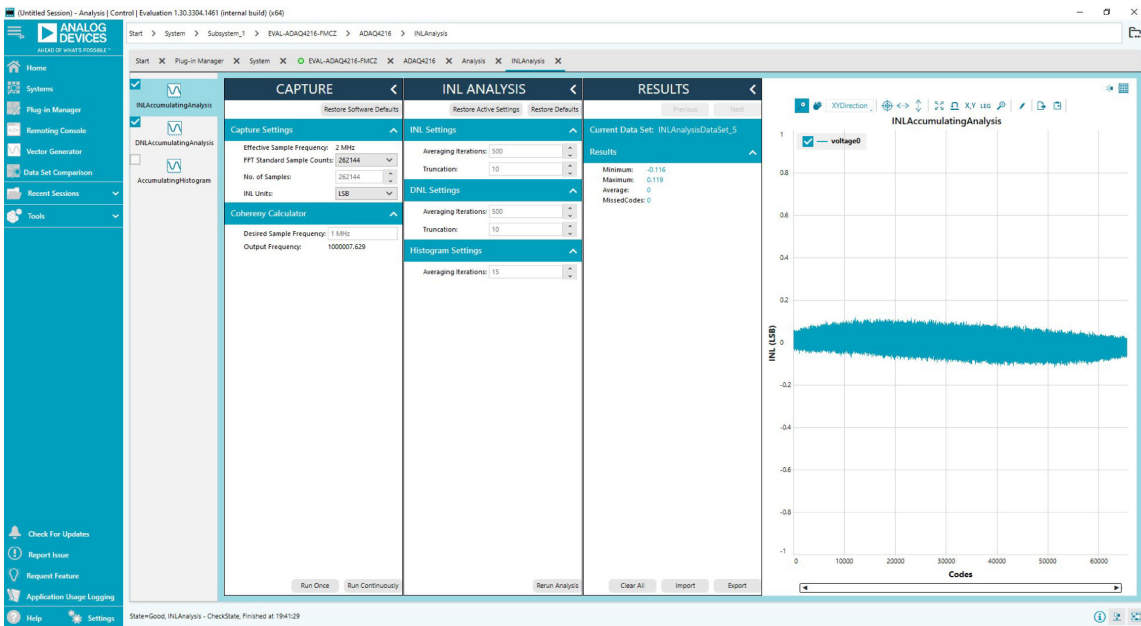
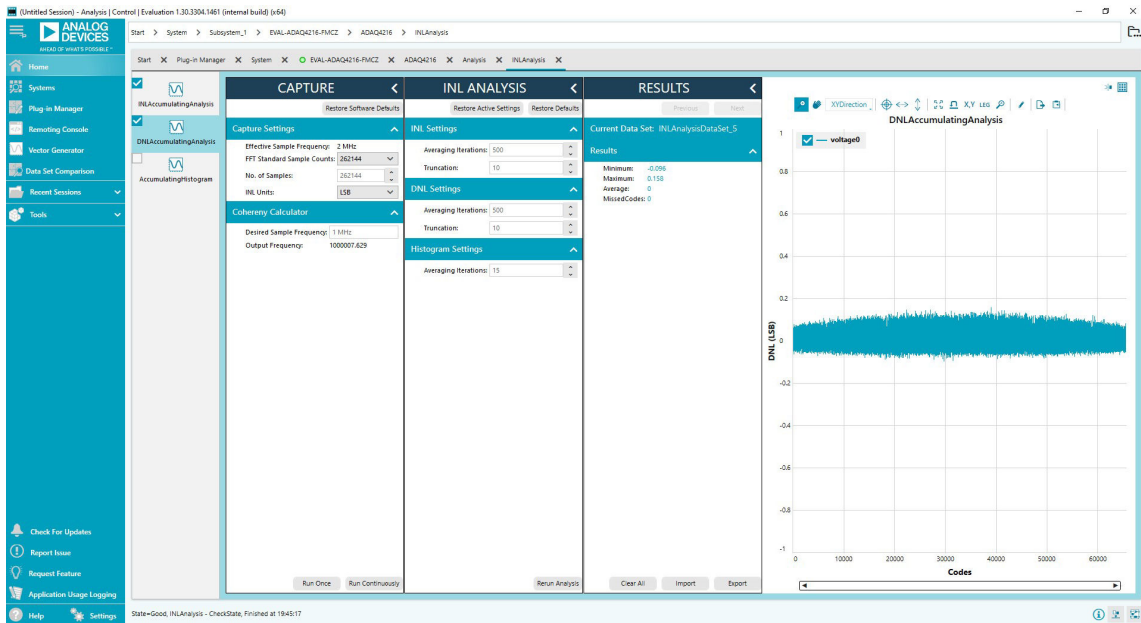

Figure 15. INL Analysis Tab, INL View
Figure 16. INL Analysis Tab, DNL View
7. For INL and DNL analysis, go back to the Chip view tab and click **Proceed to INL Analysis** button. On the **CAPTURE** and **INL Analysis** pane, set the sampling frequency, no. of samples, no. of iterations, truncation, and units. Before doing an INL analysis, modify the EVAL-ADAQ4216-FMCZ and install R67 and remove R59. This connects the VSS_FDA pin of the ADAQ4216 to the -1V supply. After the INL capture is done, the user can view the results in then INL and DNL views, as shown in Figure 15 and Figure 16.
The INL Analysis tab allows the user to showcase the linearity performance of the ADAQ4216. Before performing any measurements, set the **Capture Settings** and **INL Settings** in the **CAPTURE** and **INL ANALYSIS** pane, respectively, as shown in Figure 15 and Figure 16. To perform linearity test, apply a +0.5dBFS amplitude sinusoidal signal from a precision signal source at the VIN+ and VIN- SMA inputs of the EVAL-ADAQ4216-FMCZ board. VSS_FDA also needs to be connected to the on-board -1V supply.